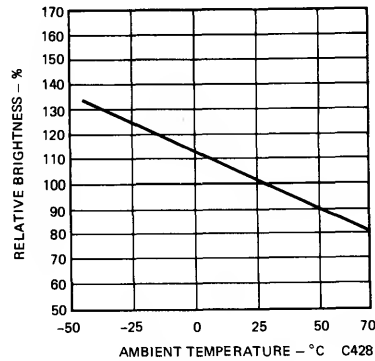

Fig. 3. Luminous Intensity vs. Temperature
2. The curve in Fig. 3 is normalized to the brightness at 25°C to indicate the relative efficiency over the operating temperature range.